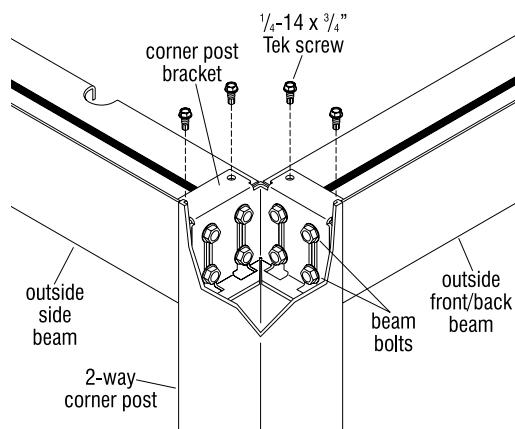

Figure 1
- Once all components are in place, assure that the posts are plumb, square and tight to the beam at the top. Then, on top of each post, hold the corner post bracket down so there are no gaps and tighten all beam bolts, securing each corner post bracket to the corner post and beams. Repeat this process at the top of all corner posts (Figure 1).
- Next, install the  $1/4\text{-}14 \times 3/4\text{"}$  self-tapping Tek screws through the pre-drilled holes of the bracket and into the beams to secure (Figure 1).